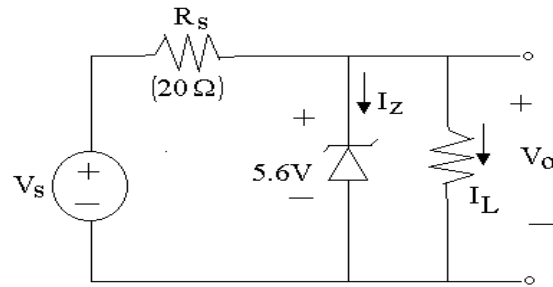

Fig.2
Q.51 In the circuit shown in Fig.2, if $v_i = 1 \text{V}$, calculate I_1, v_o, I_L and I_o .